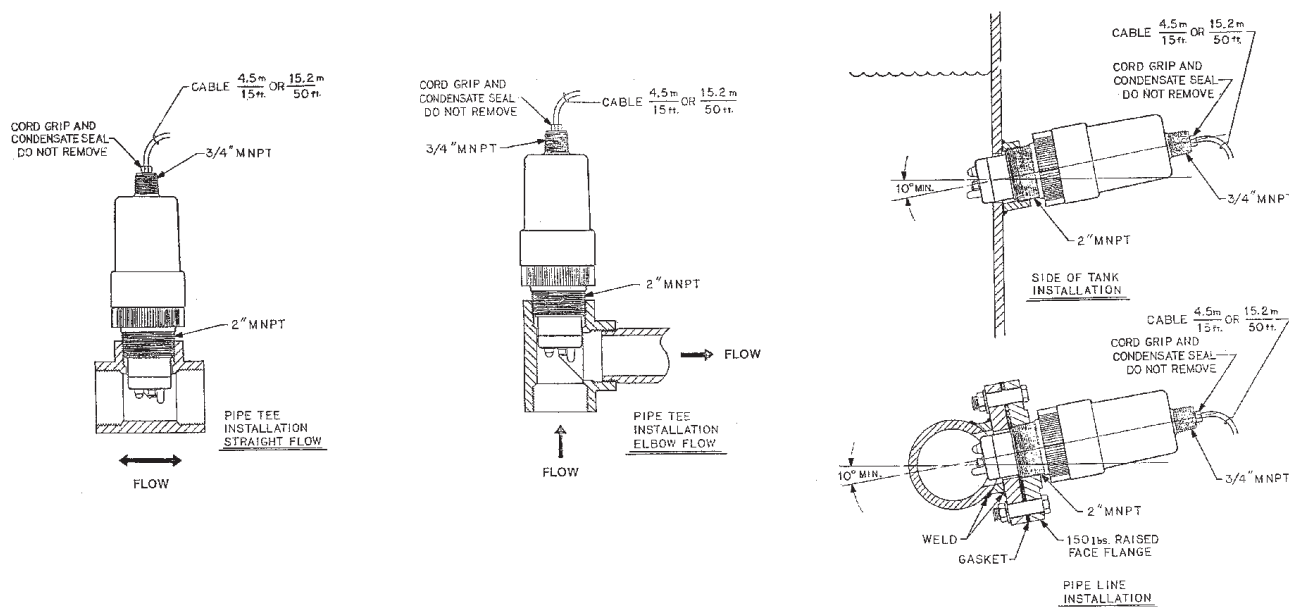

FIGURE 2-3. Insertion Installation Diagram
2.3 INSERTION INSTALLATION (Code 00). To install the sensor in the side of a tank, in a pipeline, or in a pipe “tee”, proceed as follows (see Figure 2-3):
Sensor must be installed within 80° of the vertical plane (see Figure 2-3).
1. Use Teflon tape on pipe joint, and install sensor as shown in Figure 2-3.